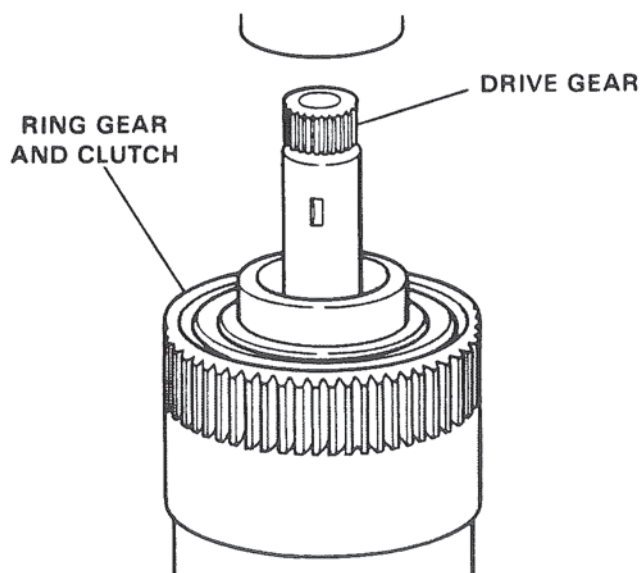

Figure 64. Assembling Ring Gear and Clutch Assembly onto Drive Gear.
2. Lower ring gear and clutch assembly until internal teeth of clutch plates begin to engage teeth on forward clutch hub. Rotate ring gear to align teeth of plates with teeth on clutch hub. Do not force ring gear, as damage to teeth on plates will result. When ring gear and clutch are in correct position, rear end of ring gear should be against the assembly tool or "flush" with the rear thrust face of drive gear. Figure 64. Do not remove drive gear and clutch assembly from assembly tool or move drive gear forward until this procedure is completed. Any movement of the drive gear forward will result in the clutch plates becoming disengaged with clutch hub and sealing rings moving out of position.